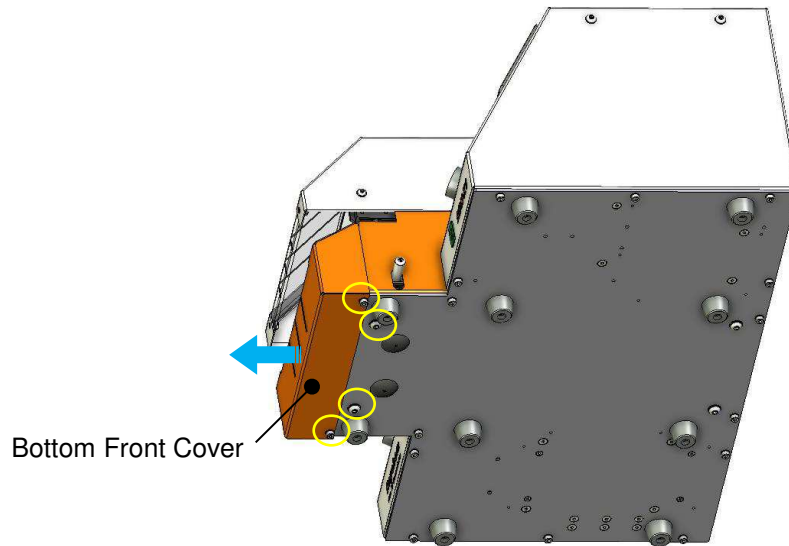

Fig.3 Remove machine cover
1. Fig.3 , loosen the 4 screws (2x M4, 2x M6) on machine bottom front, and remove the Bottom Front Cover.